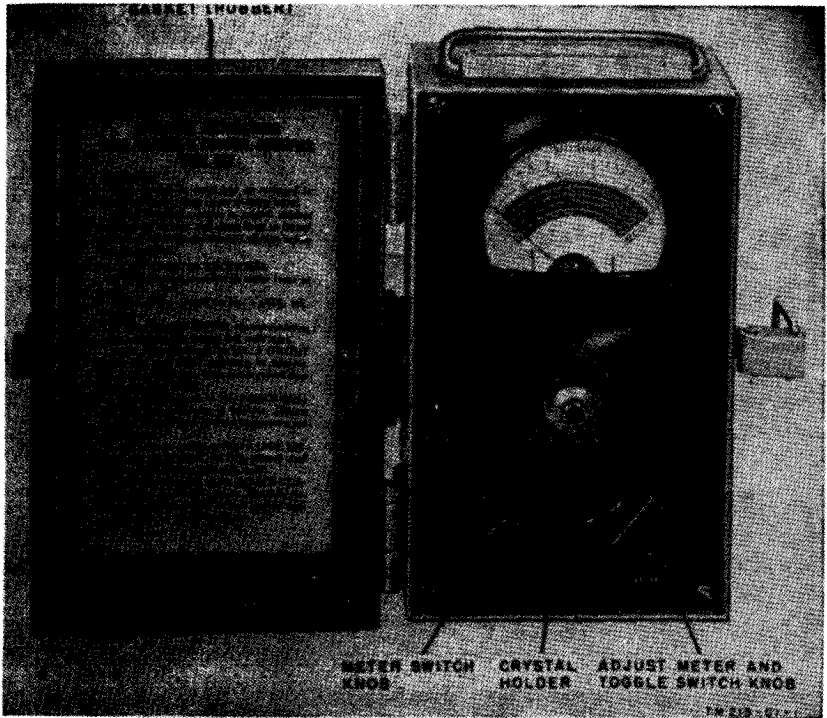

Figure 8. Crystal Rectifier Test Set TS-268C/U, front panel view.
a. *Preliminary.* Set the meter selector switch (fig. 8) to the first ADJ. METER position (position 1) in a clockwise direction. Vary the ADJUST METER control until the needle is at the extreme right (zero ohm) position. Then set the selector switch to the ADJ. METER position (position 4). Vary the ADJUST METER control until the needle is at the extreme right (zero ohm) position.